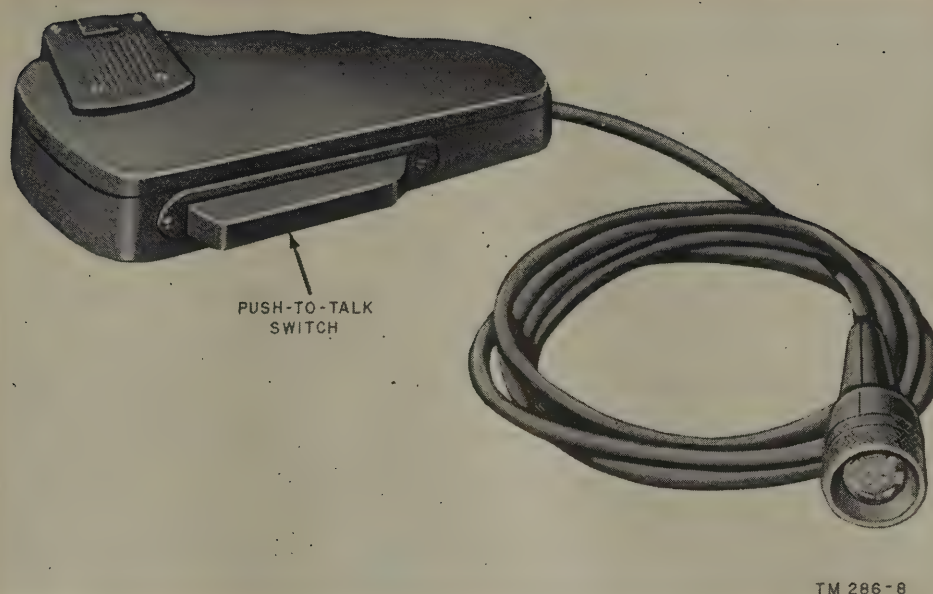

Figure 16. Microphone M-29/U.
f. *Microphone M-29/U.* Microphone M-29/U (fig. 16) consists of a 100-ohm carbon-microphone element in a plastic case with a push-to-talk switch and connecting cord attached. The push-to-talk switch is a double-pole single-throw switch. The connecting cord is 5 feet long and terminates in a 10-pin audio connector which will mate with the receptacles on the receiver-transmitter or with the audio receptacles on either of the control units.